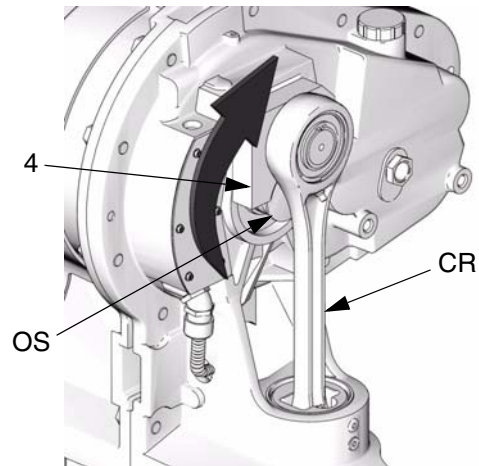

FIG. 3. Rotate Crank Arm
9. See FIG. 3. Rotate the crank arm (4) to allow it to be removed from the output shaft (OS).
10. Pull the crank arm/connecting rod/slider piston assembly (CR) up and out of the cylinder.